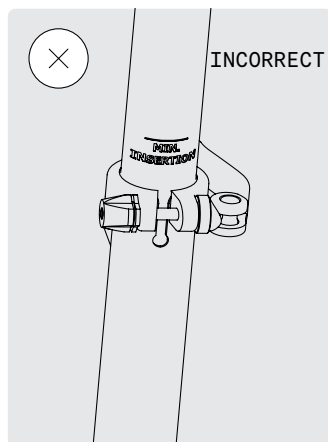

FIG. 35
- Make sure that the seatpost does not sit too deep in the steering tube. With some seatposts the tube is tapered on upper end and can no longer be securely clamped (Fig. 35, 36).